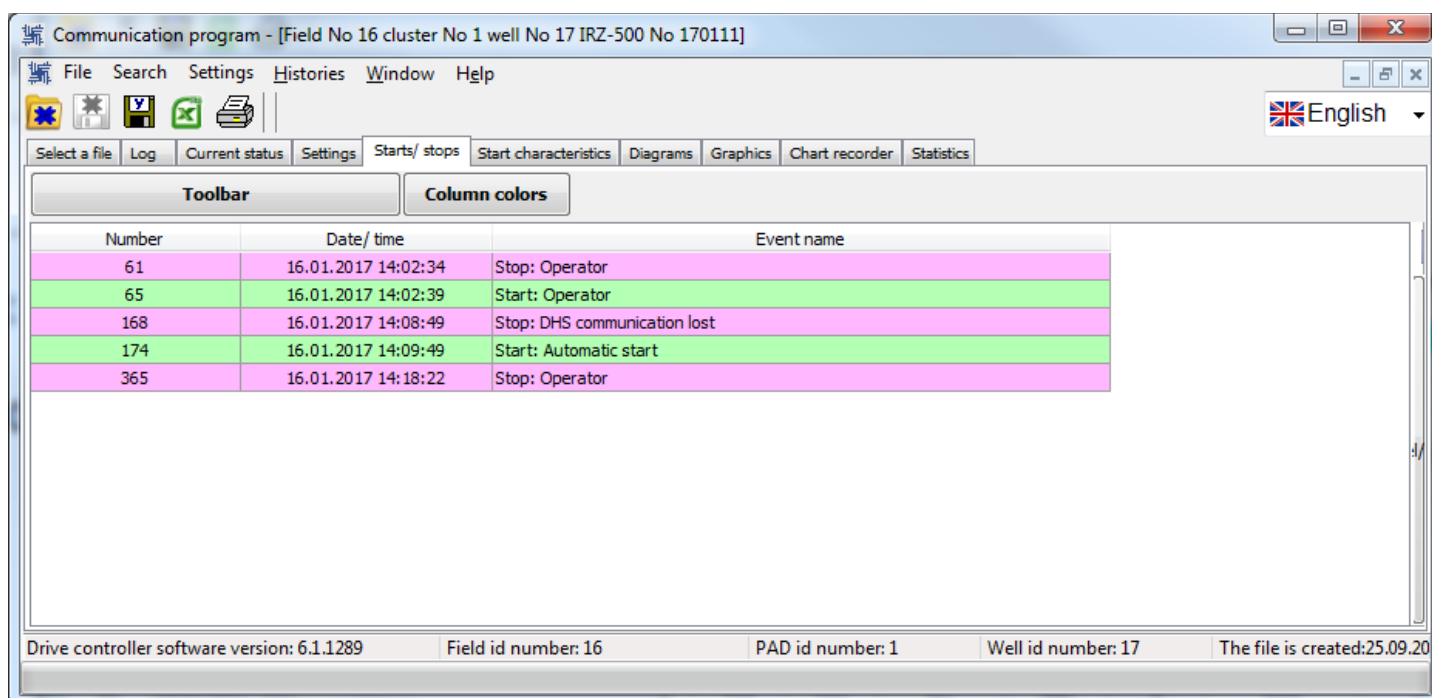

Fig. 24
**Starts / stops** tab contains a list of all registered logs of the drive, related to motor start and stop, with the stop date/time, reason for stop, and values of the parameters resulting in motor stop (for protection-related shutdowns). Fig. 24 indicates **Starts / stops** tab.
Lines of “Starts / Stops” table can be highlighted with different colors for convenience. Default colors correspond to those specified for start and stop events in **Log** tab. To edit the colors used for start and stop events, press  (see Fig. 24) and configure the colors in the displayed lists.